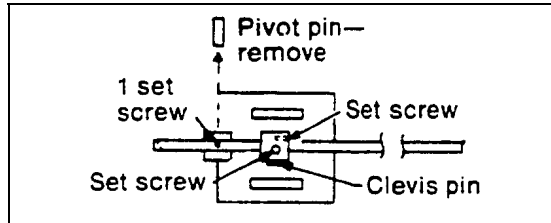

Figure 3 – Remove Pivot Point
2. Unscrew and remove pivot point. See Figure 3.